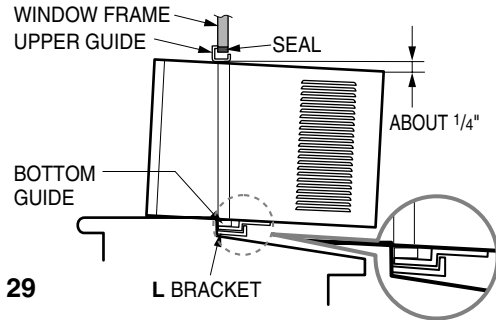

Figure 29
- b. While steadying the air conditioner, carefully bring the window sash down behind the upper guide of the air conditioner, as shown in Figure. 29.